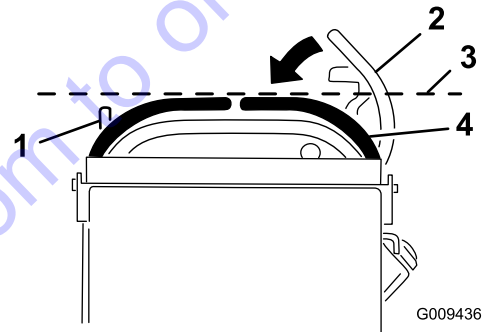

Figure 46
2. Push the motion-control levers down out of the NEUTRAL-LOCK position (Figure 46).
3. Check if the right motion-control lever aligns horizontally with the left motion-control lever (Figure 46).